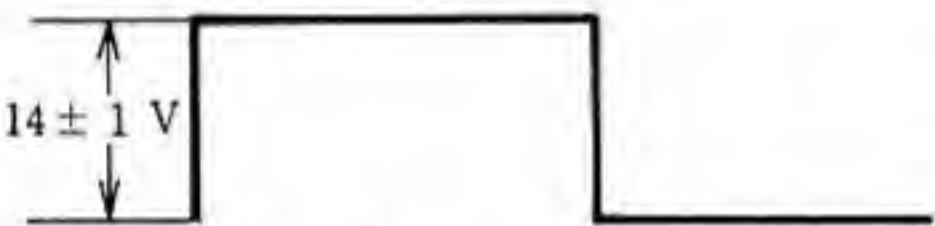

Fig. 5
b. When LFO/NORMAL switch on TRIGGER is turned to LFO (0V at terminal N (4-2) and the key is turned ON (-7V is applied to terminal KTR (4-3)), the waveform shown in Fig. 5 should be obtained at terminal O  (3-10) and its frequency should be one half (cycle time is two times that of LFO oscillator.)